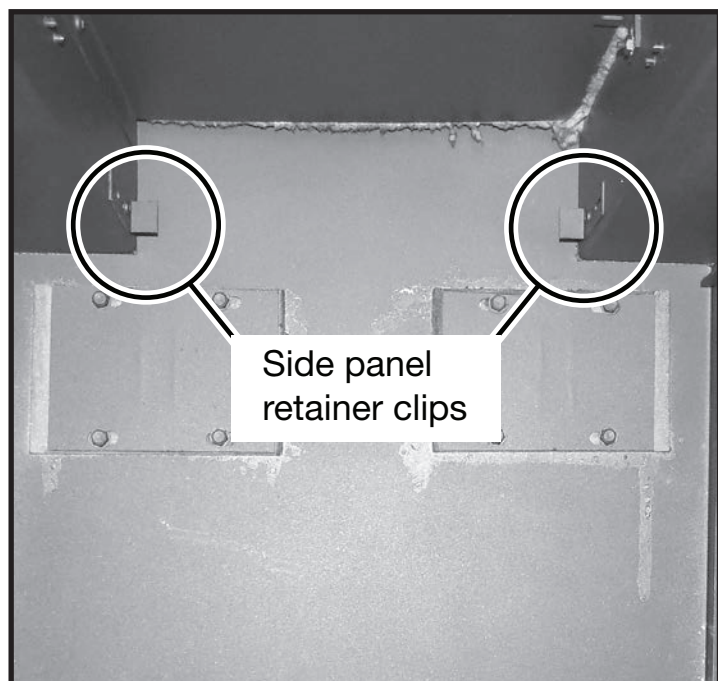

Figure 11: Side panel retainer clips location.
11. If not already removed, remove the side panel retainer clips located in the upper firebox (Figure 11). There are two clips at each end of the firebox.